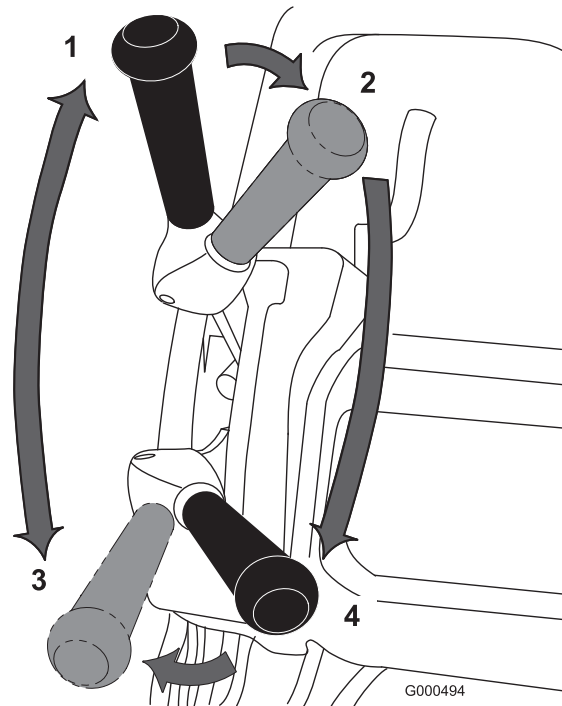

Figure 33
1. Turn on the machine, set the speed control to the Zero position, push down on the handle to raise the cutting unit, press the operator presence control, move the traction lever to the Engaged position (Figure 33), and gradually increase the speed control setting to transport the mower onto the collar of the green.
3. Disengage the traction lever, then move it to the left and forward, engaging the traction and reel drive (Figure 33).